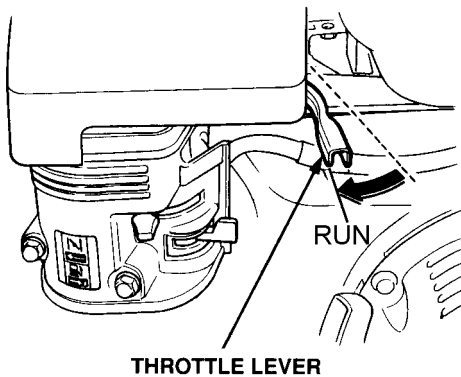

Figure 12. Throttle Lever (Run).
- To begin pumping, place the throttle lever (Figure 12) in the **RUN** position.